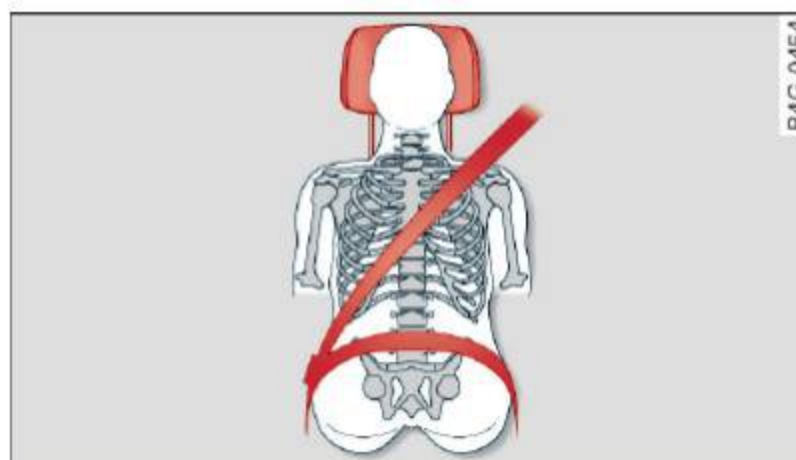

Fig. 128 Head restraint: viewed from the front
- ▶ Adjust the head restraints so the upper edge is as even as possible with the top of your head. If that is not possible, try to adjust the head restraint so that it is as close to this position as possible ⇒ *fig. 128*.